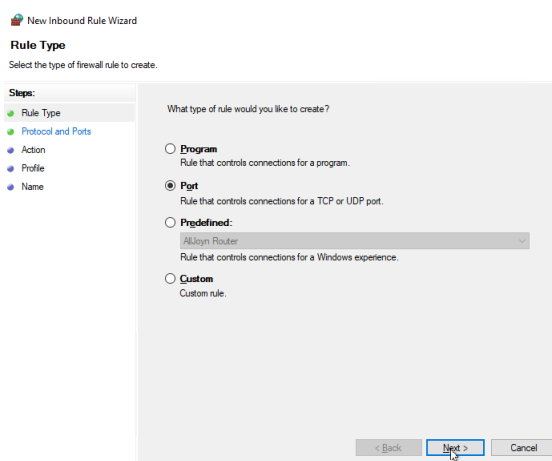

Figure B.2. New firewall rule: rule type
2. Select **Inbound Rules** and then **New Rule...** A new dialog appears (Figure B.2).